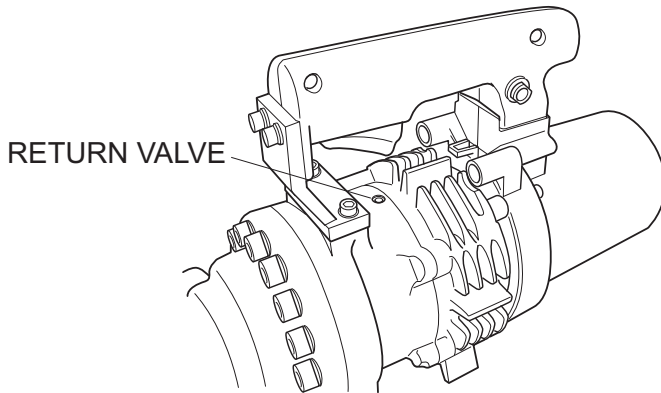

Figure 3. Return Valve
1. Rotate the return valve half a turn in the counterclockwise direction with the allen wrench (no. 4) supplied with the unit. See Figure 3 for location.